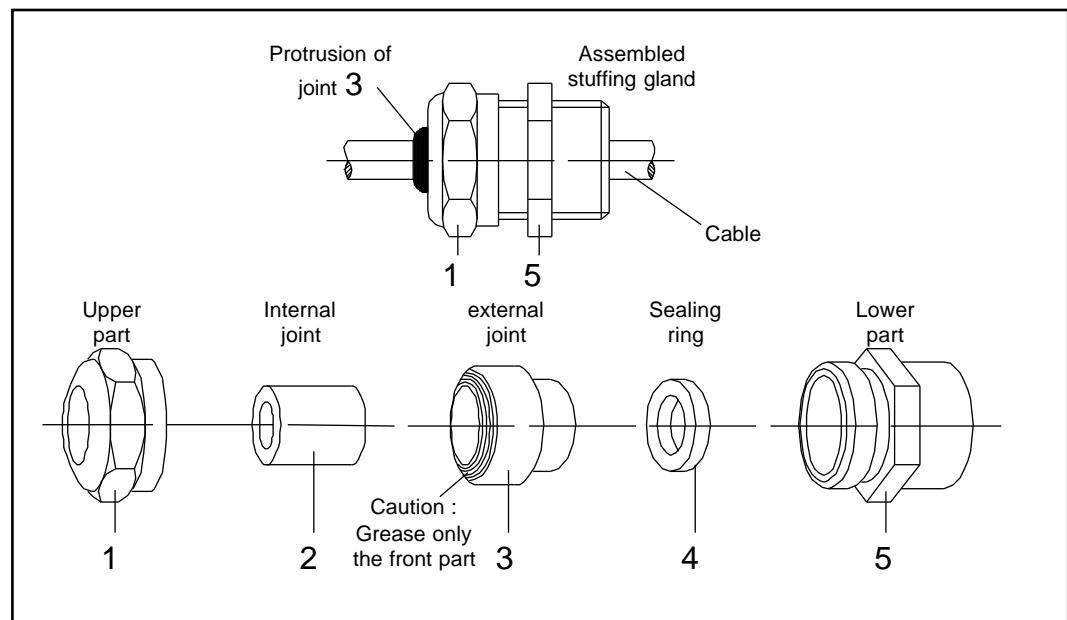

Fig. 4-3 : Stuffing gland (overall view and exploded view).
- Pass the cables into the stuffing glands located on the load monitoring unit housing, proceeding as follows (see Figure 4-3) :
- Reassemble the elements of the stuffing gland and, before placing element 1, coat joint 3 with silicone as shown in Figure 4-3. Tighten element 1 in such a way that joint 2 and/or 3 protrudes, so as to provide the degree of watertightness required.